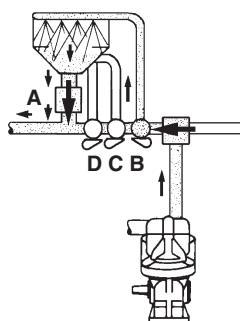

Fig 26
- 9 Engage the hopper flushing device by opening the hopper flush valve (**B** Fig 26 & **B** Fig 22).